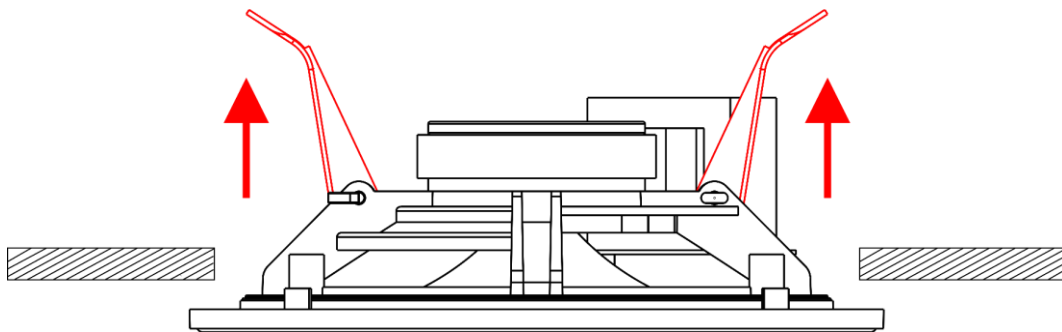

Fig. 02
- 05) Pull on the **mounting clamps (03)** and insert the speaker into the mounting hole in the ceiling (Fig. 02). Make sure the flange of the **mounting frame (01)** is flush on the ceiling.